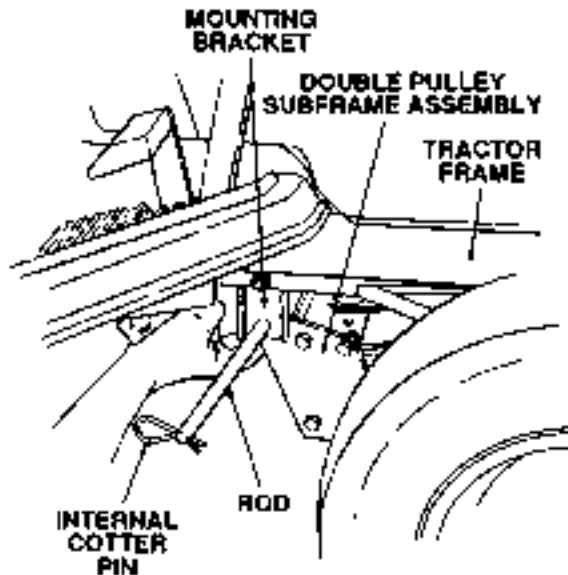

Figure 7-36. Attaching Double Pulley Subframe Assembly.
4. Install an internal cotter pin (18) into one end of the rod (19) and lift the double pulley subframe assembly up between the frame mounting brackets (15). See Figure 7-36.
- Slide the rod (19) through the nearest mounting bracket (15), both sides of the double pulley subframe, and the other mounting bracket (15). Install the second internal cotter pin (18) into the other end of the rod. See Figure 7-36.